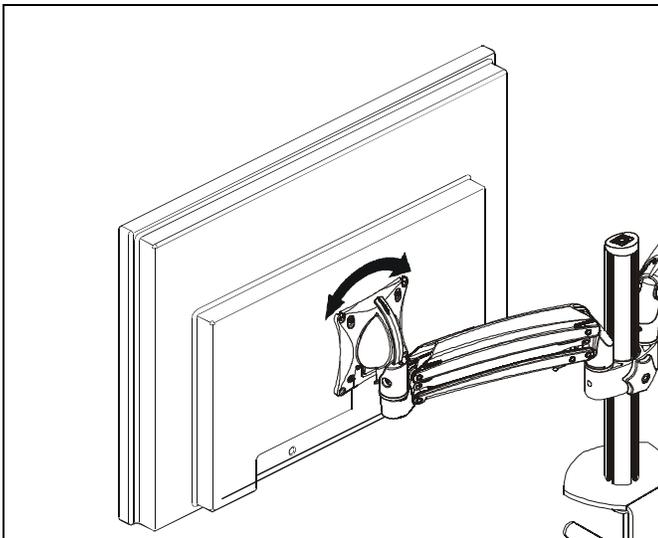

Figure 9
1. The monitor may be adjusted 90 degrees in either direction in order to provide a portrait view of the monitor. (See Figure 9)